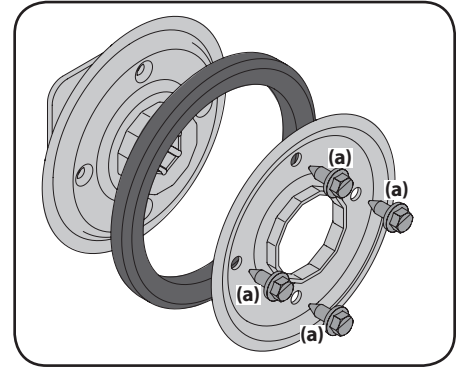

Figure 4-22
1. Remove four screws (a) which secure friction wheel's side plates together. See Figure 4-22.